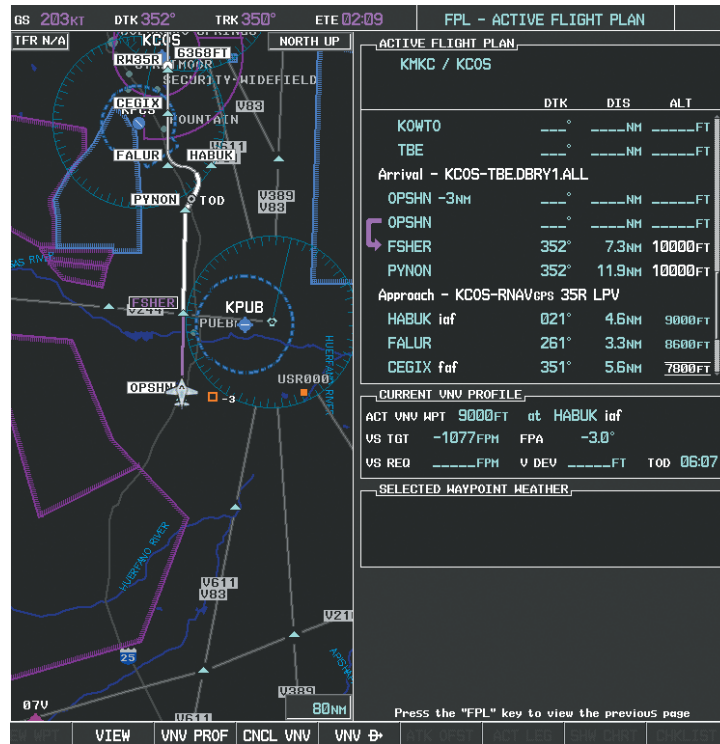

Figure 5-145 Tracking the OPSHN to FSHER Leg
- 19) After passing OPSHN, the next leg of the arrival turns magenta as shown in Figure 5-145. The magenta arrow in the flight plan list now indicates the OPSHN to FSHER leg of the arrival procedure is now active.